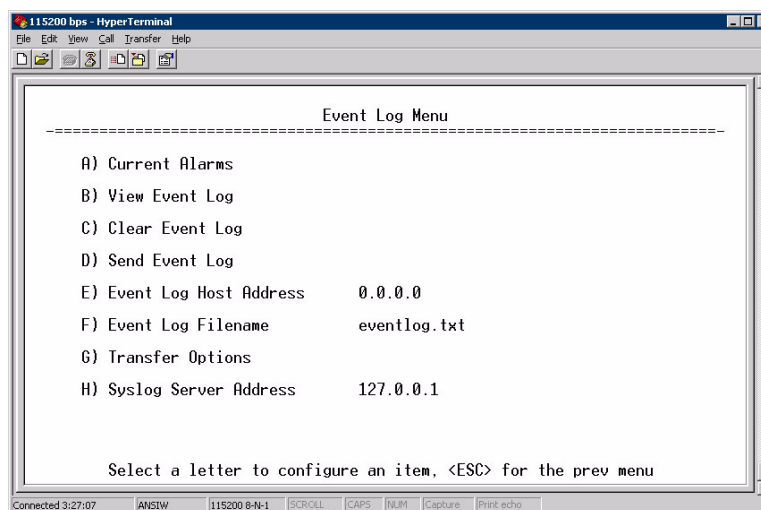

Figure 3-86. Event Log Menu
- **Event Log**—Access this menu for managing the unit’s operational activities log. (See Figure 3-86 on Page 115 for details.)